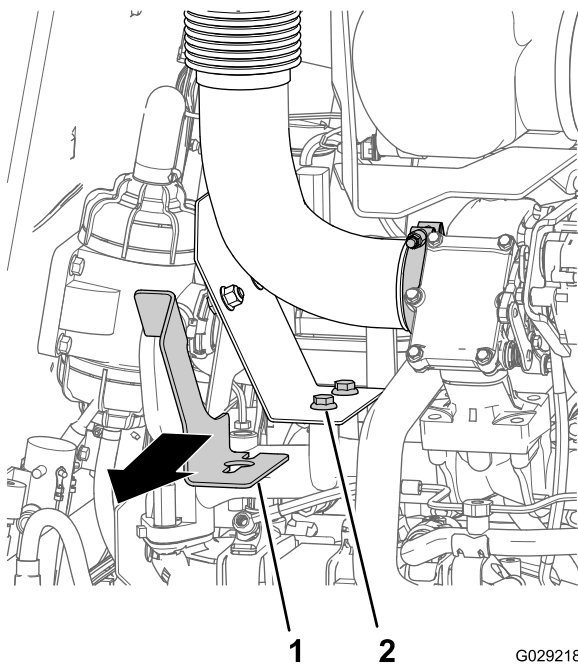

Figure 19
- Loosen the 2 flange-head bolts securing the pipe-alignment jig to the heatshield and remove the alignment jig (Figure 19).